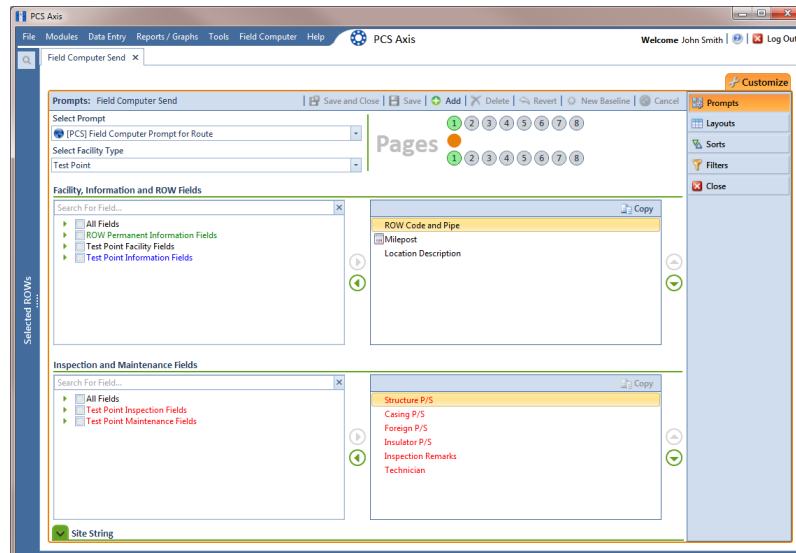

Figure 8-39. Prompts
- 4 Click the **Customize** tab , then the **Prompts** button  to open the *Prompts* page (Figure 8-39).